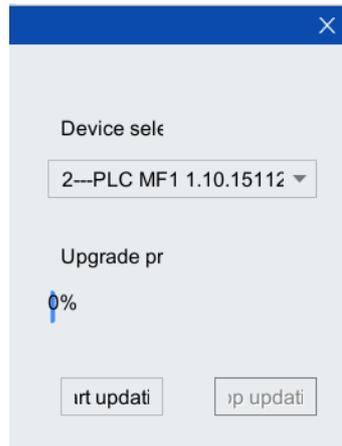
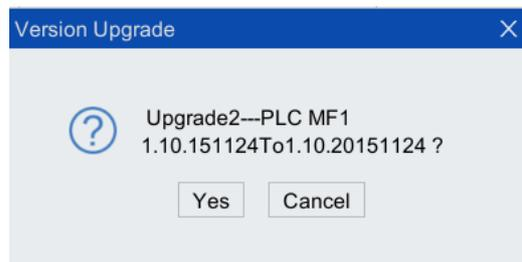

Figure 8-46 "Upgrade" window
Figure 8-47 "Are you sure to upgrade MF to the corresponding version" dialog box
Step3.Pop up "Upgrade" window shown in Figure 8-46, find "PLC_MF" option in "Equipment Selection", and then click <Start Update> button. Pop up "Upgrade2---MF ***?" dialog box in Figure 8-47, and click <Yes> Button to pop up the upgrade progress bar. The MF file upgrade will take about 30s.